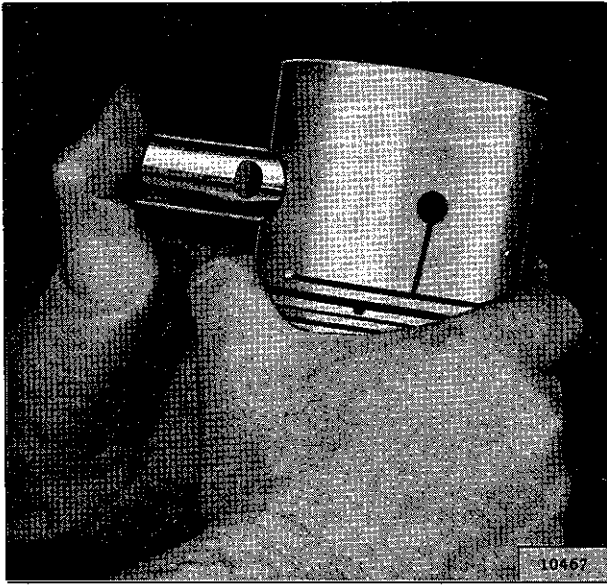

FIG. 101—PISTON PIN FITTING
**c.** Check the piston pin fit. The piston pins are fitted with a clearance of .0001" to .0003" [0,0025 a 0,0076 mm.] which approximates a light thumb push fit at room temperature. See Fig. 101. The piston pins are anchored in the rods with lock screws. Installation of oversize pins in this engine